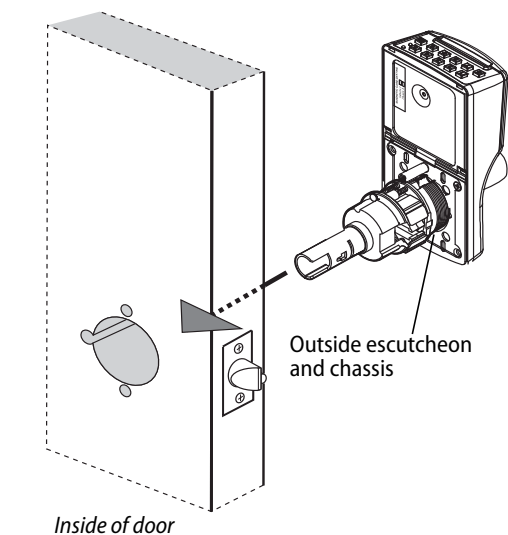

Figure 13 Installing the outside escutcheon and lock chassis
- 1 From the outside of the door, insert the lock chassis and outside escutcheon into the 2 1/8" (54 mm) chassis hole. See Figure 13.